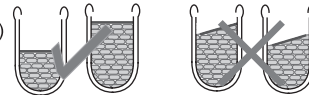

Fig. 1
1. Pull out the lint filter from the lock, use fingers pull out at the part of the lint filters side. (Fig.1)